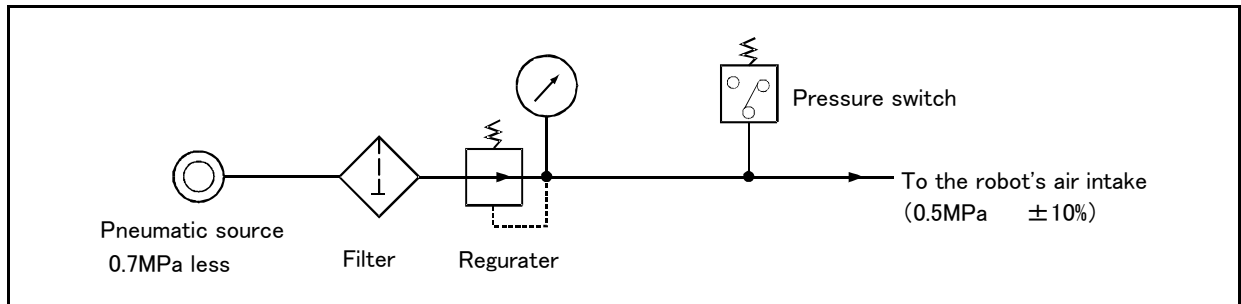

Fig.2-9 : Air supply circuit example for the hand
Fig. 2-9 shows an example of pneumatic supply circuitry .
- (1) Place diodes parallel to the solenoid coil.
- (2) If the factory's air pressure decreases, it may adversely affect the actual operations. As a preventive measure, attach a pressure switch to the air source as shown in Fig. 2-9 so as to make the circuit stop the robot in the event of air pressure drop. If the pressure switch does not improve the situation, use a device equipped with a mechanical lock mechanism or a mechanism that clamps by spring pressure.
- (3) The optional hand and solenoid valve are of an oilless type. If they are used, don't use any lubricator.
- (4) Supply clean air to the vacuum generation valve when you use clean type robot.